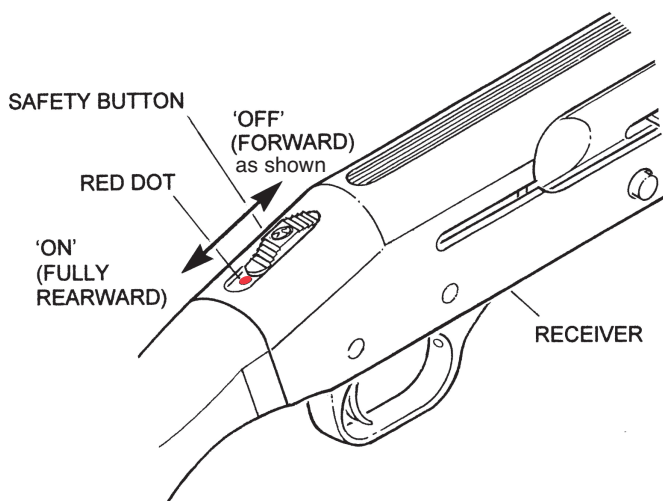

Figure 1
The safety button is located on the top rear portion of the receiver (Figure 1) and must be manually moved to the desired position by the shooter.
Check to be sure the firearm is unloaded by visually and physically checking the chamber, elevator, and magazine tube. Make certain that the safety button is fully rearward in the "ON" (SAFE) position (Figure 1).
Before loading, move the safety button fully rearward to the "ON" (SAFE) position (Figure 1).
**The firearm is now loaded and will fire if the safety is moved to the "OFF" (FIRE) position and the trigger is pulled! The safety button (Figure 1) should be kept fully rearward in the "ON" (SAFE) position until you are on target and have actually decided to fire. Keep the muzzle pointed in a safe direction at all times, and your fingers and any other objects away from the trigger area.**